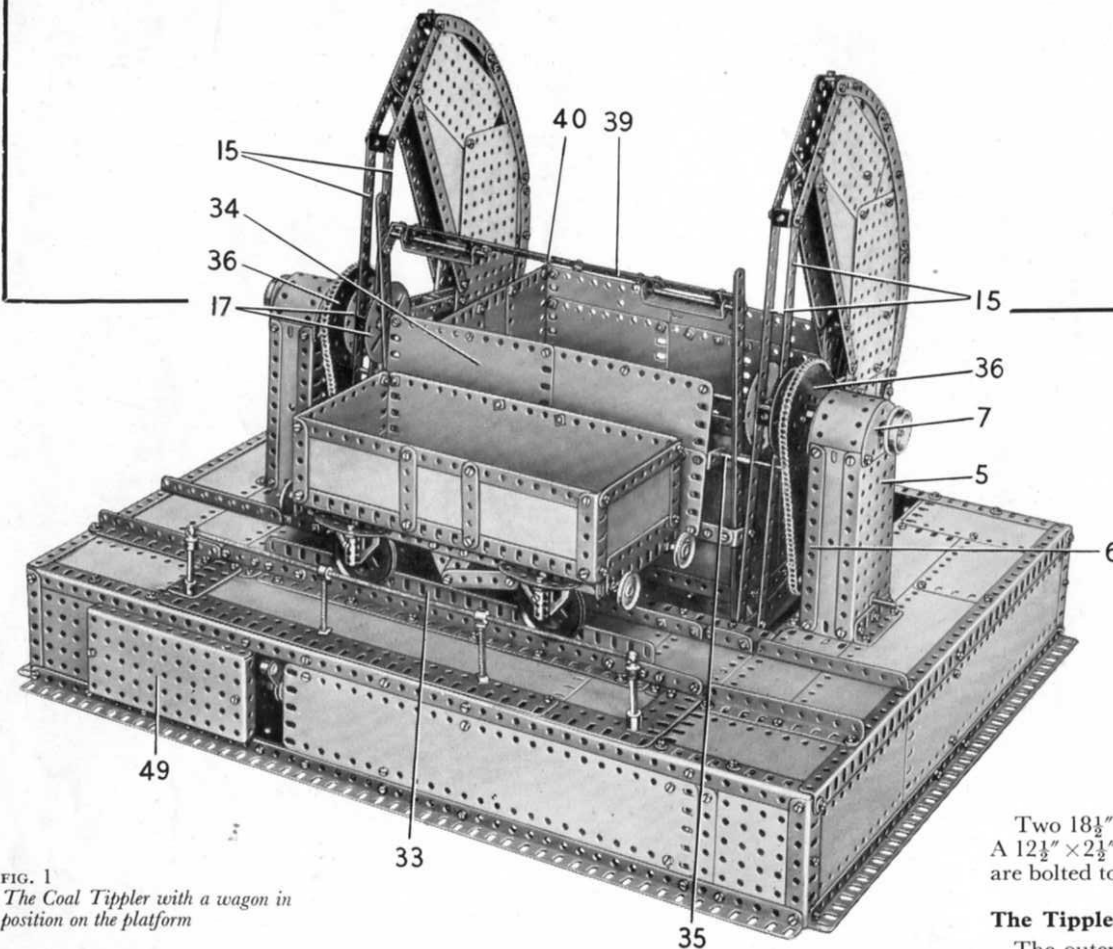
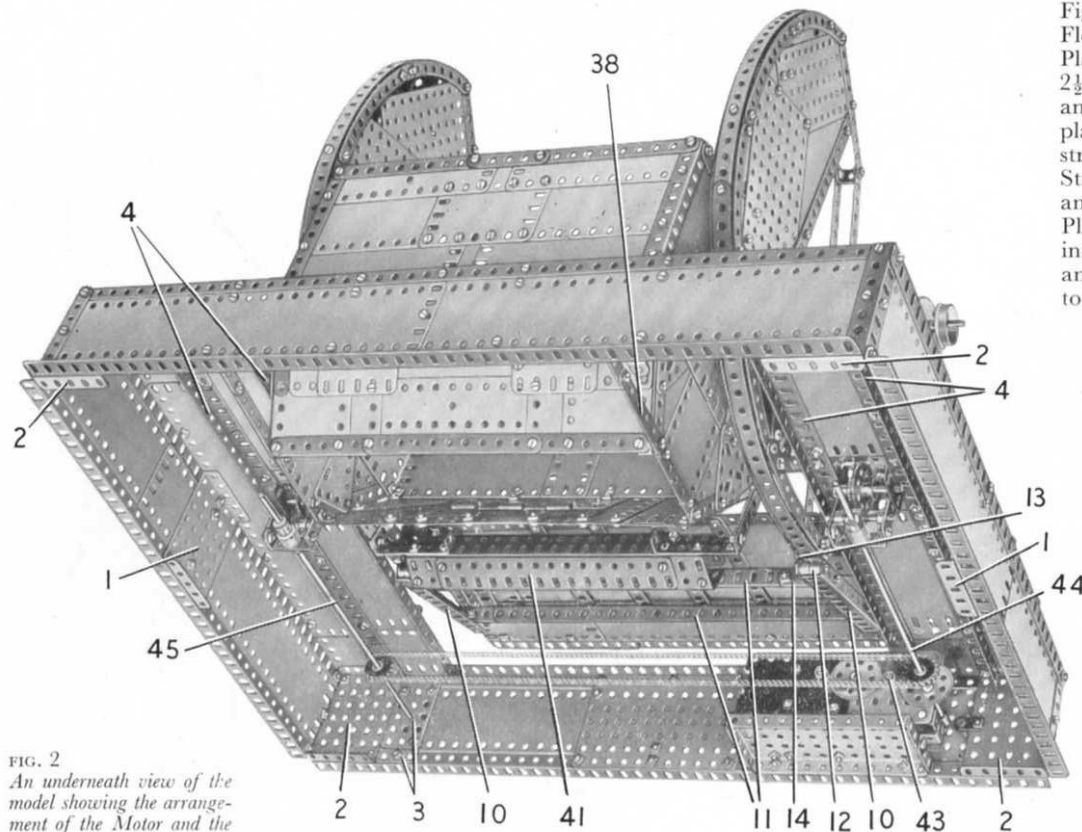
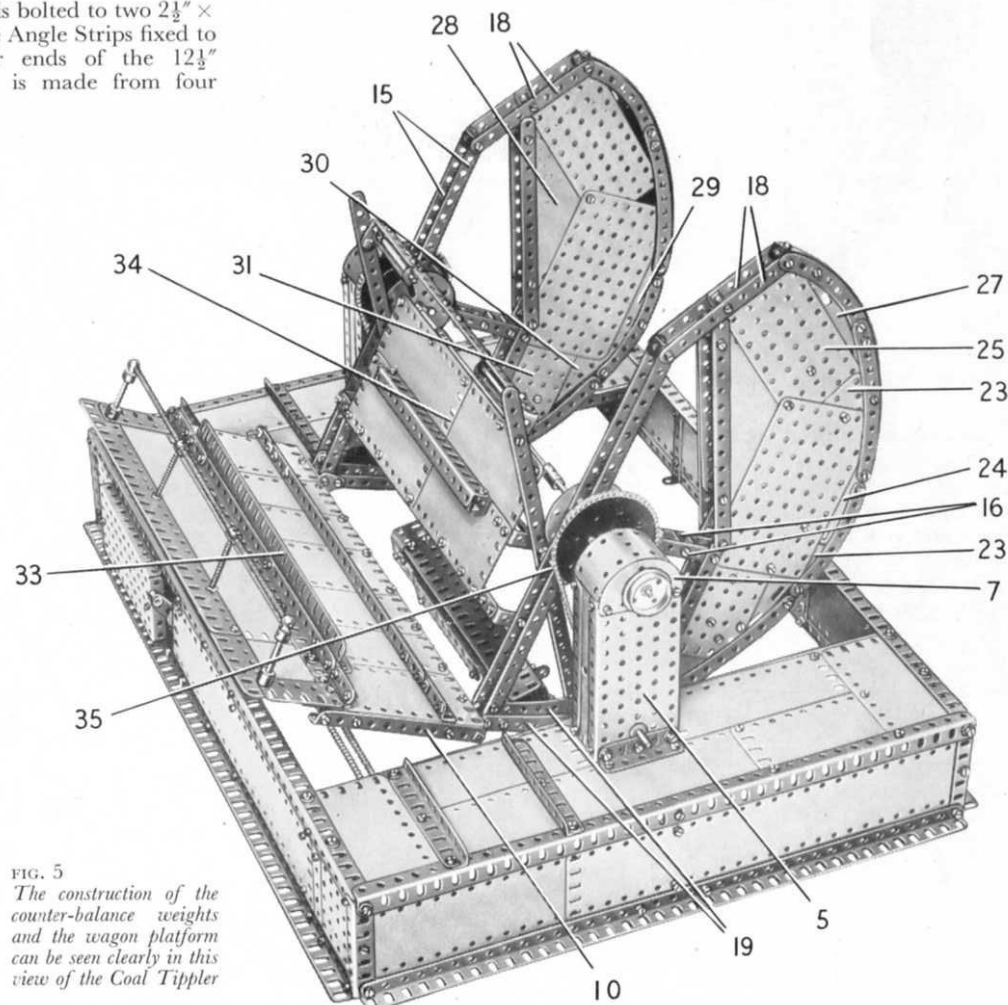
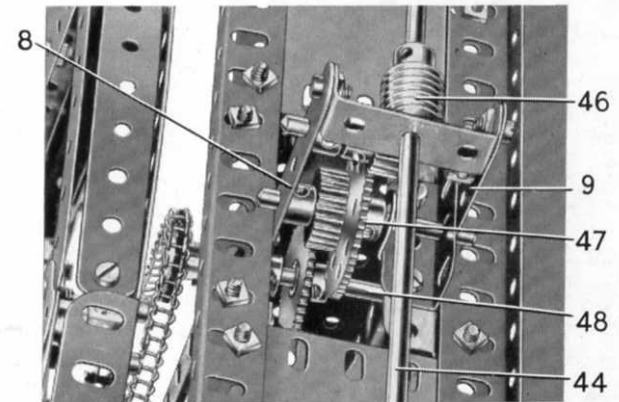

FIG. 1
FIG. 2
FIG. 5
FIG. 7
Construction of the Model: The Base (Fig. 2)
Each side of the base consists of two $18\frac{1}{2}$ " Angle Girders joined at their ends by $3\frac{1}{2}$ " Angle Girders, and connected at the centre by a $3\frac{1}{2}$ " \times $2\frac{1}{2}$ " Flanged Plate (1) (Fig. 2). The sides are filled in by $12\frac{1}{2}$ " \times $2\frac{1}{2}$ " Strip Plates. The sides are connected at the front and the back by $24\frac{1}{2}$ " Angle Girders, with the corners strengthened by $3\frac{1}{2}$ " \times $2\frac{1}{2}$ " Flanged Plates (2). The $24\frac{1}{2}$ " Angle Girders are braced at the centre by $5\frac{1}{2}$ " \times $3\frac{1}{2}$ " Flat Plates, and at the front two $3"$ \times $1\frac{1}{2}"$ Flat Plates (3) are bolted between the Girders. The front and the back are completed by $12\frac{1}{2}$ " \times $2\frac{1}{2}"$ Strip Plates, as shown in Figs. 1 and 2.
Two $18\frac{1}{2}"$ Angle Girders (4) are bolted across the top of the base at each end (Fig. 2). A $12\frac{1}{2}"$ \times $2\frac{1}{2}"$ Strip Plate, three $4\frac{1}{2}"$ \times $2\frac{1}{2}"$ Flexible Plates and two $5\frac{1}{2}"$ \times $2\frac{1}{2}"$ Flexible Plates, are bolted to these Girders at each end to fill in the top.
The Tippler Supporting Columns (Figs. 1, 2, 3, 5 and 7)
The outer face of each column is a $5\frac{1}{2}"$ \times $2\frac{1}{2}"$ Flanged Plate (5) fixed to a $2\frac{1}{2}"$ Angle Girder bolted to one of the Girders (4). The inner face is formed by two $5\frac{1}{2}"$ Angle Girders (6) supported by a $2\frac{1}{2}"$ Angle Girder fixed to the second of the Girders (4). The Flanged Plate (5) and the Girders (6) are extended upward by Semi-Circular Plates (7) (Fig. 5), and the sides and top of the column are filled in by $5\frac{1}{2}"$ \times $1\frac{1}{2}"$ Flexible Plates. A $7\frac{1}{2}"$ Strip (8) (Fig. 7) is bolted to the inner face of the column, and a $2\frac{1}{2}"$ Strip (9) is fixed to the Flanged Plate (5) and to a $1\frac{1}{2}"$ Angle Girder attached to one of the Girders (4). The lower ends of Strips (8) and (9) are connected by a $1\frac{1}{2}"$ \times $\frac{1}{2}"$ Double Angle Strip.
The Tippler Platform and Counter-Balance Weights (Figs. 1, 2, 3, and 5)
The frame that supports each counter-balance consists of two $12\frac{1}{2}"$ Strips (15) (Fig. 5) bolted to the Bell Crank (12) and to Corner Bracket (13). These Strips are connected at a point 14 holes from their lower ends, by a Double Bracket, and at their upper ends by another Double Bracket. The bolts that fix the centre Double Bracket secure also two $5\frac{1}{2}"$ Strips (16), to each of which is fastened a Face Plate (17) (Fig. 1). The Strips (16) are connected by a Double Bent Strip.
Fig. 5. The outer face of each counter-balance is filled in by a $2\frac{1}{2}" \times 2\frac{1}{2}"$ Triangular Flexible Plate (21), a $4\frac{1}{2}" \times 2\frac{1}{2}"$ Flat Plate (22), a $3\frac{1}{2}" \times 1\frac{1}{2}"$ Triangular Flexible Plate, a $5\frac{1}{2}" \times 3\frac{1}{2}"$ Flat Plate, two $2\frac{1}{2}" \times 1\frac{1}{2}"$ Triangular Flexible Plates (23), a $2\frac{1}{2}" \times 1\frac{1}{2}"$ Flexible Plate (24), a $5\frac{1}{2}" \times 2\frac{1}{2}"$ Flat Plate (25), a $5\frac{1}{2}" \times 2\frac{1}{2}"$ Flexible Plate and a $3\frac{1}{2}" \times 2\frac{1}{2}"$ Triangular Flexible Plate (27). Three $12\frac{1}{2}"$ Angle Girders placed together are bolted on the inside of these Plates to add to the weight of the structure, and the inner edges of the counter-balance are finished by $5\frac{1}{2}"$ and $7\frac{1}{2}"$ Strips as shown. The inside face of each counter-balance is formed by a $5\frac{1}{2}" \times 2\frac{1}{2}"$ and a $5\frac{1}{2}" \times 3\frac{1}{2}"$ Flat Plate, a $5\frac{1}{2}" \times 2\frac{1}{2}"$ Flexible Plate (28), a $2\frac{1}{2}" \times 1\frac{1}{2}"$ Flexible Plate (29), a $4\frac{1}{2}" \times 2\frac{1}{2}"$ Flexible Plate (30) and a $4\frac{1}{2}" \times 2\frac{1}{2}"$ Flat Plate (31). The inner and outer faces of the counter-balance are connected by Double Brackets, and two curved $12\frac{1}{2}"$ Strips are fixed to the outer edges by Angle Brackets.
The front section of the tippler platform consists of a $12\frac{1}{2}'' \times 2\frac{1}{2}''$ Strip Plate and a $4\frac{1}{2}'' \times 2\frac{1}{2}''$ Flexible Plate, overlapped three holes and edged by a $12\frac{1}{2}''$ and a $5\frac{1}{2}''$ Flat Girder. The platform is completed by five $5\frac{1}{2}'' \times 2\frac{1}{2}''$ Flexible Plates and two $4\frac{1}{2}'' \times 2\frac{1}{2}''$ Flexible Plates (Fig. 5). These Plates are strengthened underneath by two built-up strips, placed one along the rear edge of the platform and one below the join between the Strip Plate and the Flexible Plates. Each built-up strip is made from two $9\frac{1}{2}''$ Strips overlapped seven holes. The joins between the $5\frac{1}{2}'' \times 2\frac{1}{2}''$ Flexible Plates are strengthened by $5\frac{1}{2}''$ Strips. Two $5\frac{1}{2}''$ Angle Girders (32) (Fig. 3), are bolted underneath the platform and a Fishplate lock-nutted to each of these Girders is bolted to one of the Girders (10).
A backplate (34) (Fig. 1) above the platform is formed by four $5\frac{1}{2}'' \times 2\frac{1}{2}''$ Flexible Plates bolted together, with the joins and edges strengthened by two $4\frac{1}{2}''$ Strips and six $5\frac{1}{2}''$ Strips. This backplate is connected to two of the Strips (15) by $1'' \times 1''$ Angle Brackets, and two further $1'' \times 1''$ Angle Brackets are passed over a made-up rod (35). This Rod consists of a 1" Rod and two $6\frac{1}{2}''$ Rods connected by Couplings, and it is held in the Strips (15) by two Collars, and two further Collars space the backplate from Strips (15). Two $7\frac{1}{2}''$ Angle Girders are attached to the centre of the backplate by Angle Brackets.
The Wagon Locking Beam (Figs. 1 and 2)
As the tippler operates the wagon is held against the rails on the platform by the swinging beam (39) (Fig. 1) which bears against the top of the wagon. The side-members of this beam are each formed by two $12\frac{1}{2}''$ Strips placed face to face and pivoted 12 holes from their top ends on the rod (35). The upper ends of these Strips are connected by a built-up strip (40), bolted to $1'' \times 1''$ Angle Brackets. The strip (40) consists of a $5\frac{1}{2}''$ Strip at each end overlapping a centre $5\frac{1}{2}''$ Strip by five holes. The end $5\frac{1}{2}''$ Strips have $2\frac{1}{2}''$ Strips bolted to them for strengthening purposes. A $2\frac{1}{2}'' \times \frac{1}{2}''$ Double Angle Strip at each end of the strip (40) is pivoted on a $3\frac{1}{2}''$ Rod held by Spring Clips in two Angle Brackets bolted to the strip.
Construction of the Wagon (Fig. 1)
The Operating Mechanism (Figs. 2, 4 and 7)
A ½" Pinion on the Motor armature shaft drives a 57-tooth Gear on a 2½" Rod that carries also a ½" Pinion (42) (Fig. 4). This Pinion engages a 57-tooth Gear on another 2½" Rod fitted with a ½" Pinion (43) (Fig. 2), and the latter Pinion drives a 57-tooth Gear on an 11½" Rod (44) mounted as shown. Rod (44) carries a 1" Sprocket that is connected by Chain to a similar Sprocket on another 11½" Rod (45).
Each Rod (44) and (45) carries a Worm (46) (Fig. 7), which drives a ½" Pinion on a 2" Rod, and this Pinion engages a 57-tooth Gear (47) on another 2" Rod (Fig. 7). A ¾" Pinion is fixed also on this Rod and drives a 50-tooth Gear on a 3" Rod (48). A ¾" Sprocket on Rod (48) is connected by Chain to one of the 3" Sprockets (36).